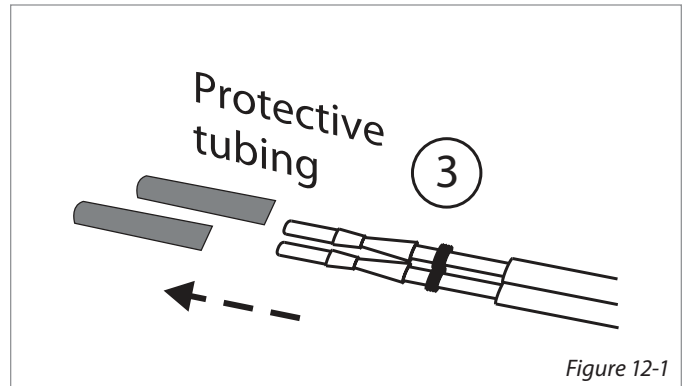

Figure 12-1
4. **When the harness is through the vehicle, remove the pin's protective tubing.** [Figure 12-1]